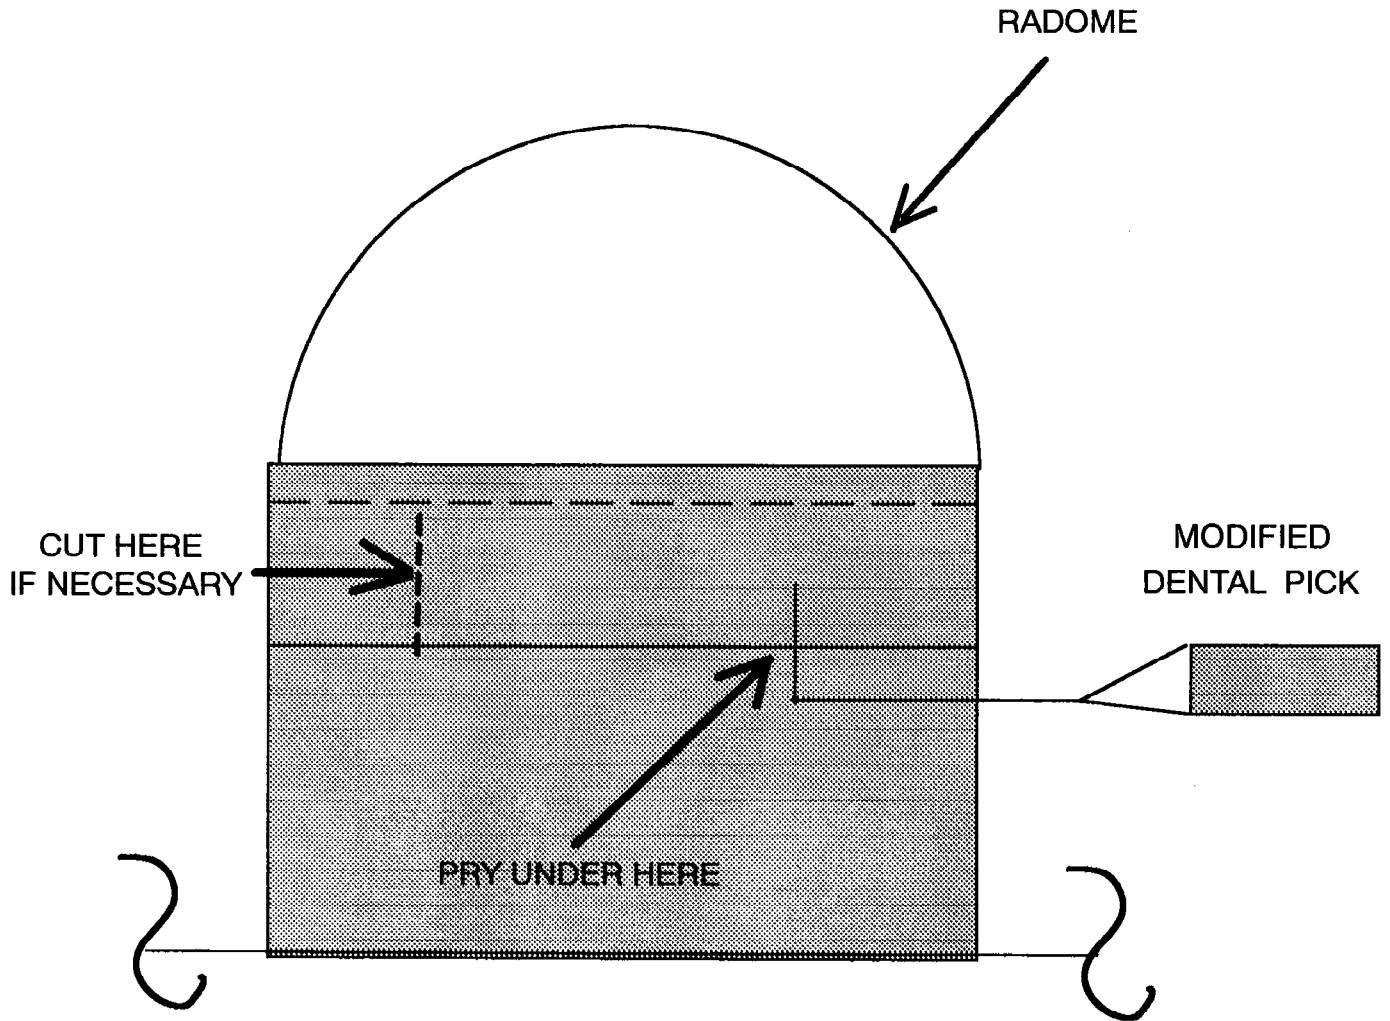

Figure 2. Radome (Without Shrink Sleeving), Removal
- (3) Carefully pick off sealant bead using modified dental pick (see Figure 2 ).
- (4) Place modified dental pick or orange stick under radome and carefully pry upward while gradually moving around the radome until at least 3/4 of radome seal is broken .
- (5) If radome cannot be loosened using dental pick, cut radome with side cutter as shown in Figure 2. Using modified dental pick, carefully work around radome until a minimum of 3/4 of the seal is broken.
- (6) Carefully twist and/or move radome until it is removed from sensor housing.